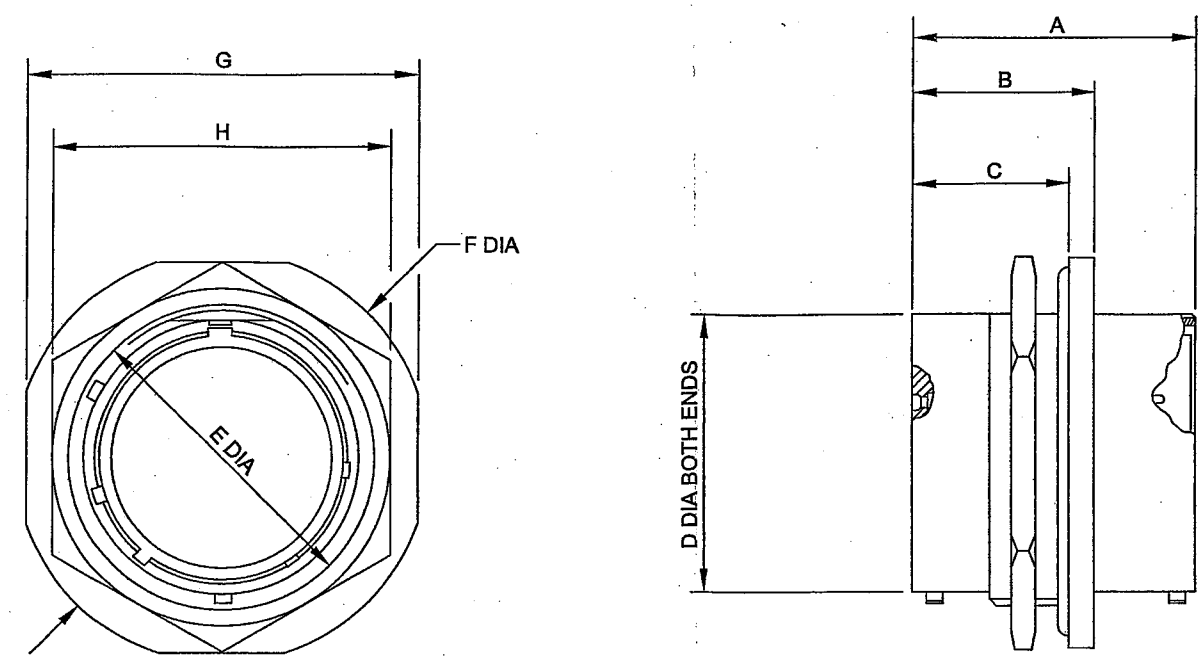

Fig 26 467HTB through bulkhead receptacle, dimensions
17.3 The 467HTB jam nut through bulkhead receptacle is suitable for fitting on pressurized bulkheads. Details are given in Fig 26 and Table 16.